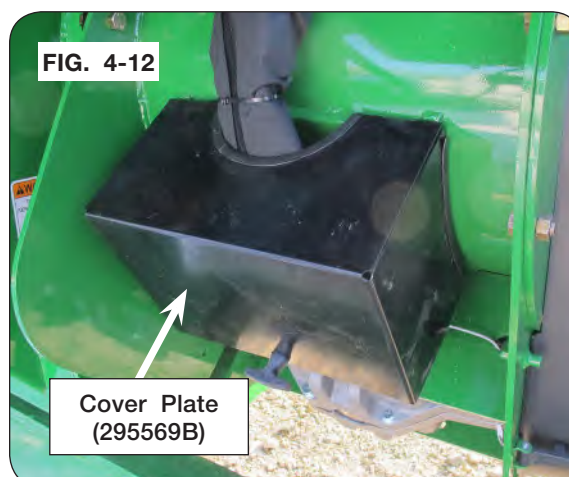

FIG. 4-12
9. Replace cover plate (295569B) from step 2 to the bottom of the lower auger housing. (FIG. 4-12)